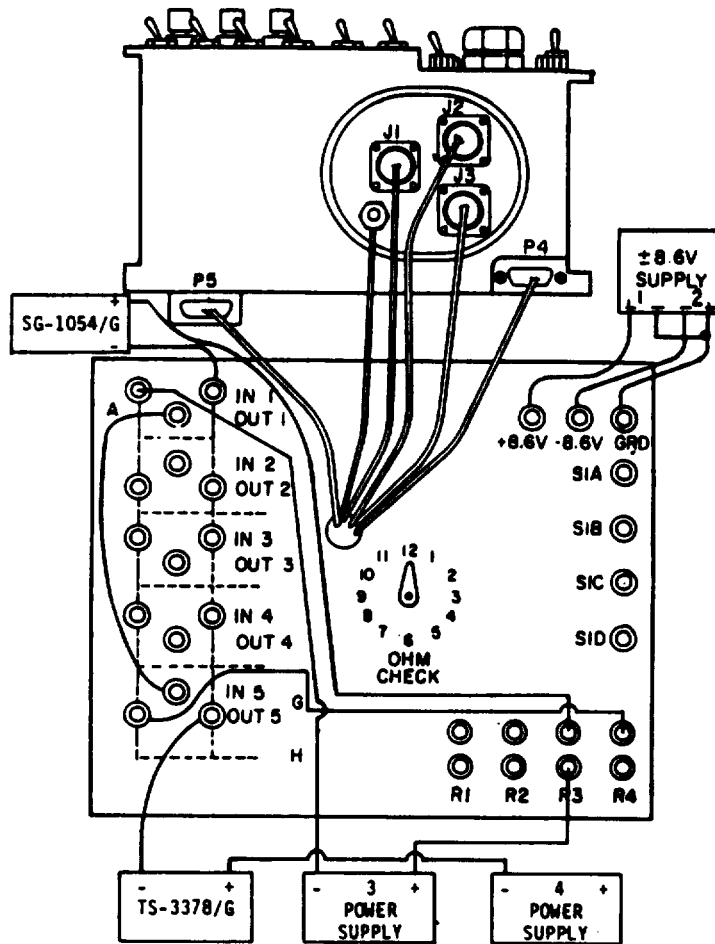

Figure 6-15. INTERFACE 20 mA and 60 mA TEST SETUP
(3) 20 mA AND 60 mA DATA FUNCTIONAL TEST SETUP. (See figure 6-15. )
- Connect power supplies as shown in figure 6-15.